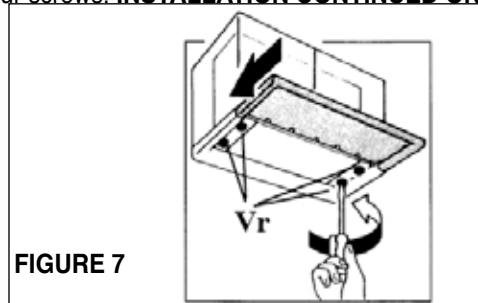

FIGURE 7
7. The rangehood can be adjusted front to back in order to have the front of the rangehood even with the front of the cabinets. Loosen the 4 screws (Vr in **FIGURE 7**) and close the glass visor. Adjust the rangehood body until the front is aligned with the front edge of the cabinet. Once properly adjusted, slide out the glass visor and tighten the four screws. **INSTALLATION CONTINUED ON PAGE 7.**